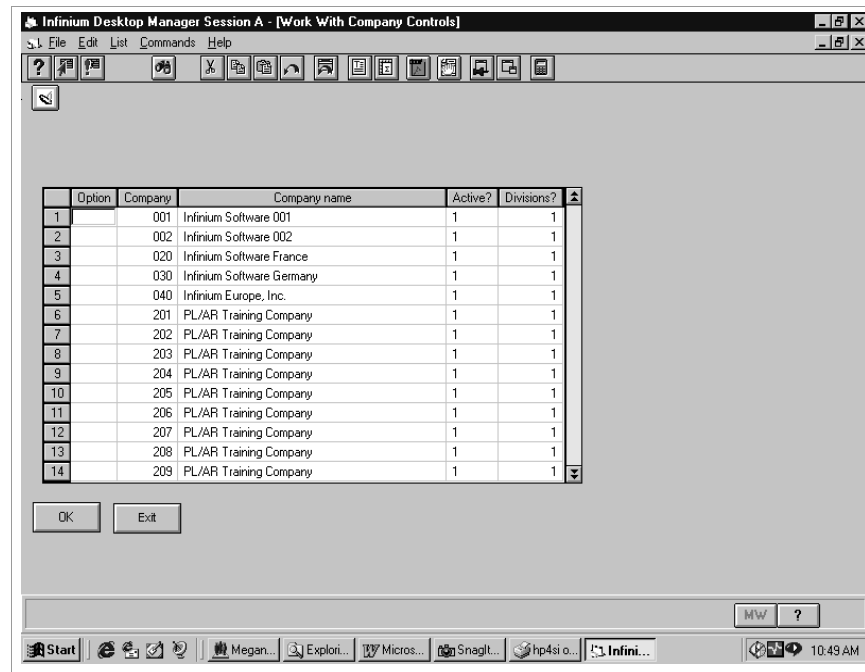
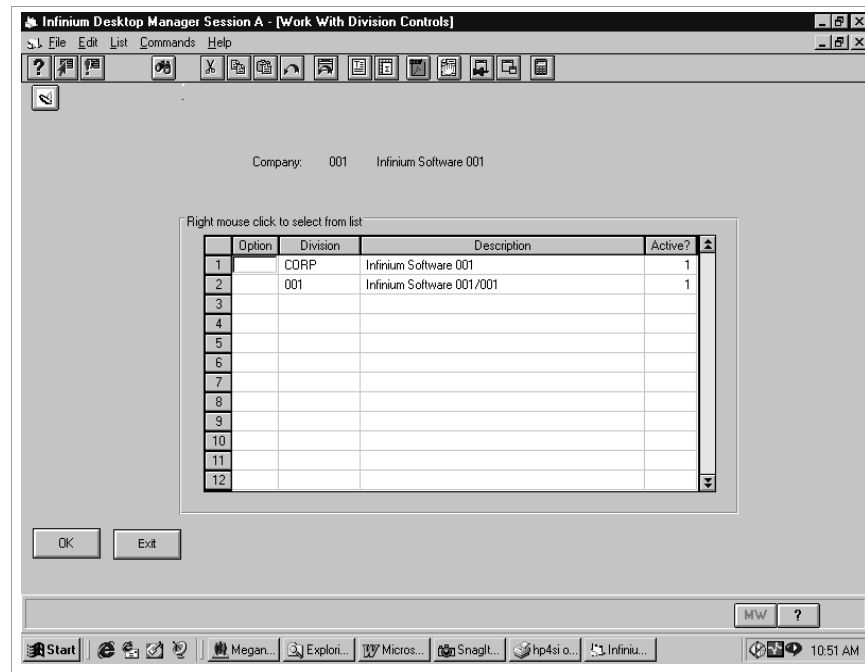

Figure 3-9: Work With Company Controls screen
Figure 3-11: Work With Division Controls selection screen
- 2 Select *Work with companies* [WWC]. The system displays the screen shown in Figure 3-9.
- 1 At the Work with Company Controls screen similar to Figure 3-9, select a company. Select **Divisions** or type **15** and press Enter. The system displays a screen similar to Figure 3-11.